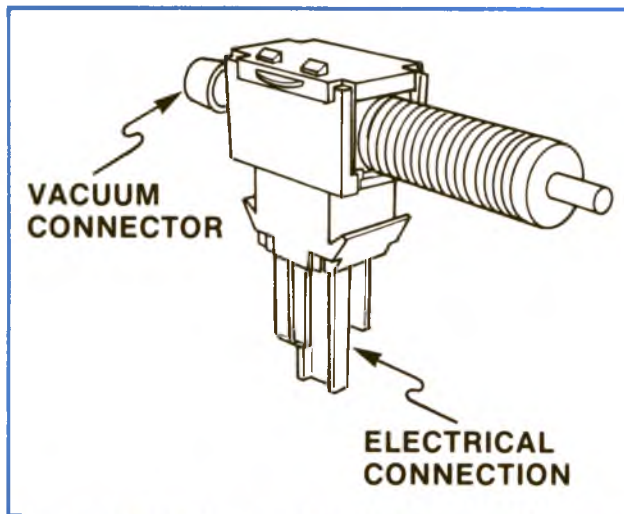

Figure 1-9, Valve and Switch Assembly on 1981 and Later Models Equipped with Lock-up Torque Converter Transmission.
5. Combination Vacuum Release Valve and Transmission Lock-up Torque Converter Clutch Switch, Resume System Only (figure 1-9) . . .
See figure 1-9. Whenever the vacuum release valve is adjusted it also adjusts the position of the lock-up torque converter clutch switch.